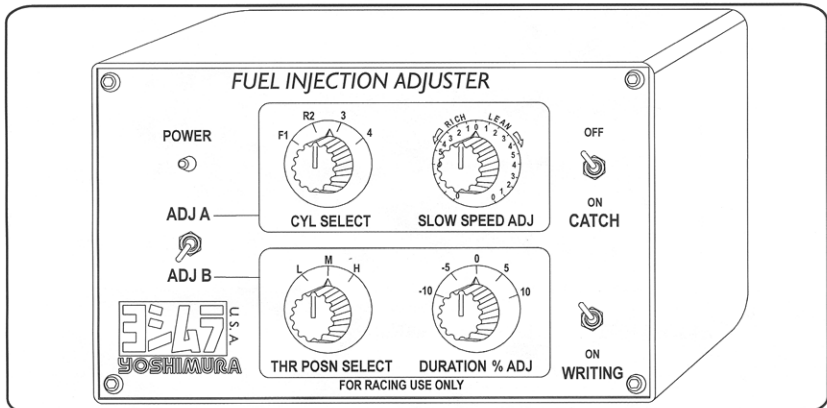

Fig. 1
2. Always confirm the ignition switch is "OFF" on the motorcycle and that the "CATCH" toggle switch located at the upper right of the adjuster box is in the "OFF" position PRIOR to connecting the cable (See Fig 1). Otherwise **DAMAGE** may result to the adjuster box.